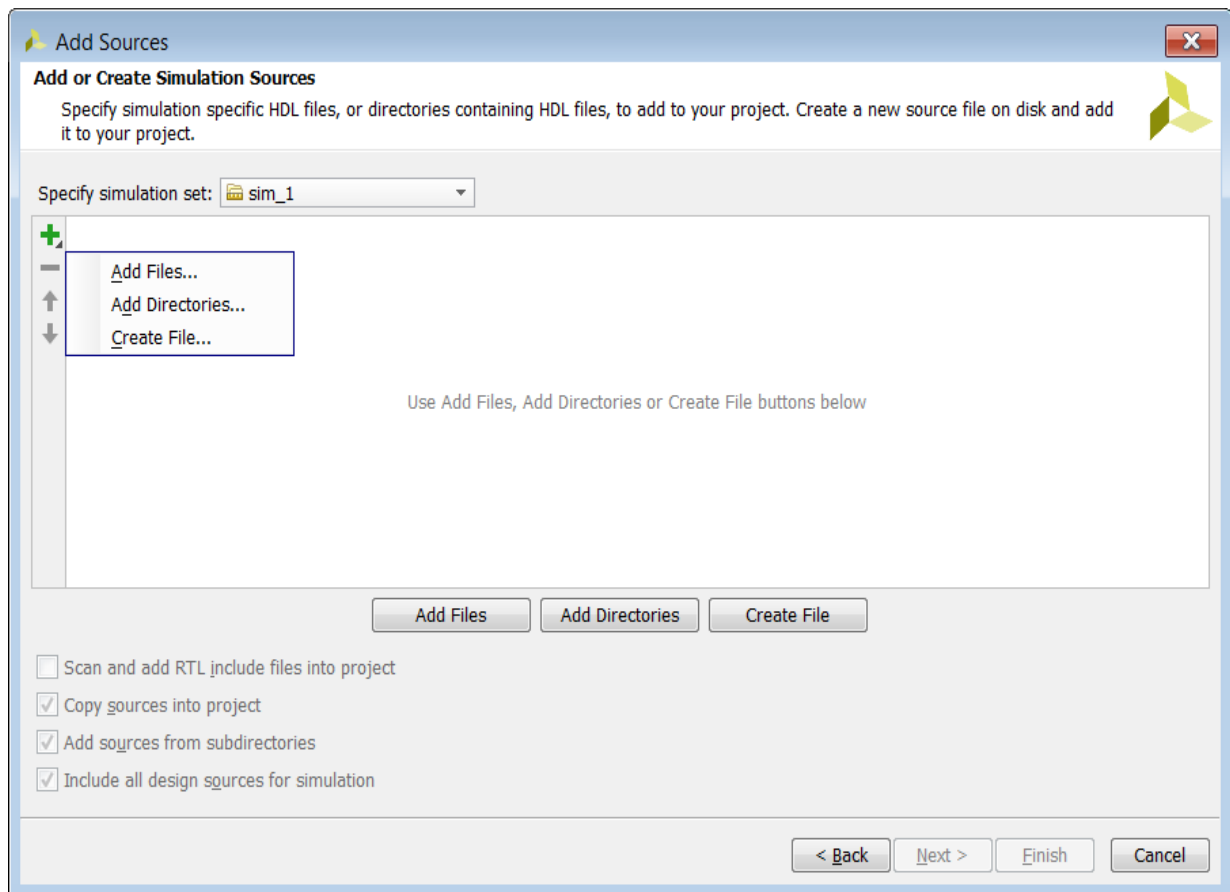

Figure 9-26: Add Source Dialog Window
5. In the Add Sources dialog box, click the "+" symbol Figure 9-26 and select **Add Files**.